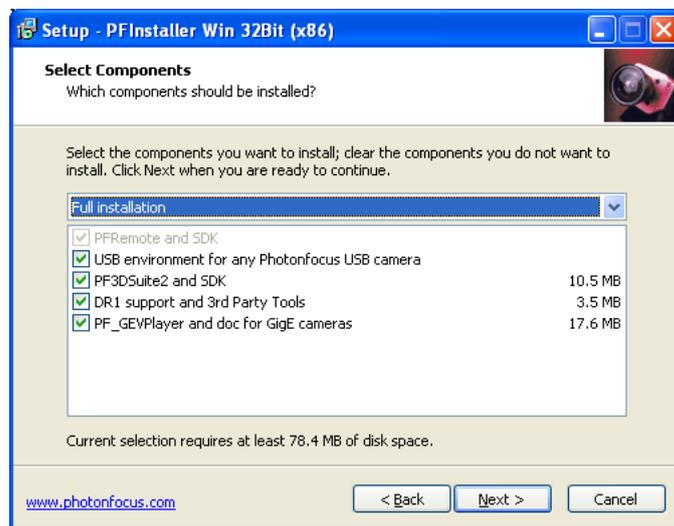

Figure 3.3: PFIInstaller components choice
6. Install the PFInstaller by double-clicking on the file. In the Select Components (see Fig. 3.3) dialog check PF_GEVPlayer and doc for GigE cameras. For DR1 cameras select additionally DR1 support and 3rd Party Tools. For 3D cameras additionally select PF3DSuite2 and SDK.